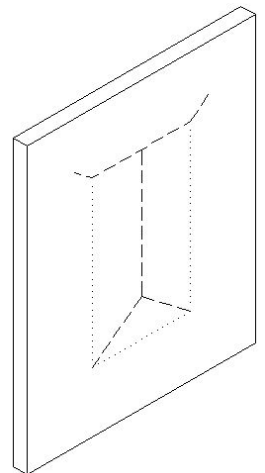

Figure 1A
- If the building has a weather resistant barrier (house wrap), prepare the opening per the manufacturers instructions. Cut the house wrap as shown in fig. 1A. Fold the sides and bottom flaps into the opening and